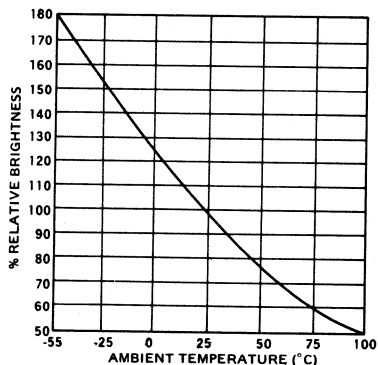

Figure 2 Brightness vs. Temperature
- The curve in Figure 2 is normalized to the brightness at 25°C to indicate the relative efficiency over the operating temperature range.